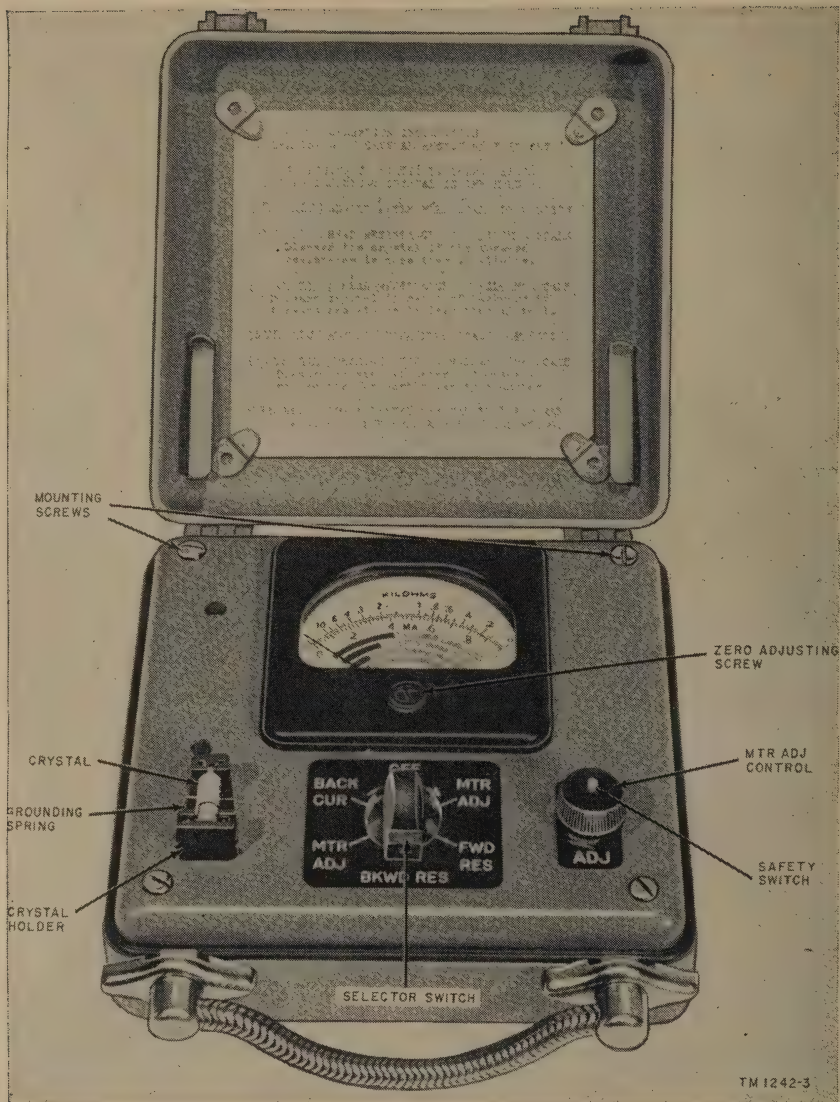

Figure 4. Crystal Rectifier Test Set TS-268/U, front panel view.
a. Crystal Rectifier Test Set TS-268(*)/U (fig. 4) is a combination ohmmeter-ammeter, designed to permit rapid qualitative tests on specific types of r-f (radio-frequency) crystal rectifiers. Measurements of the front resistance, back resistance, and back current may be made with this equipment. The condition of the crystal rectifier under test can be determined by comparing the results obtained to typical values for each type of crystal rectifier.